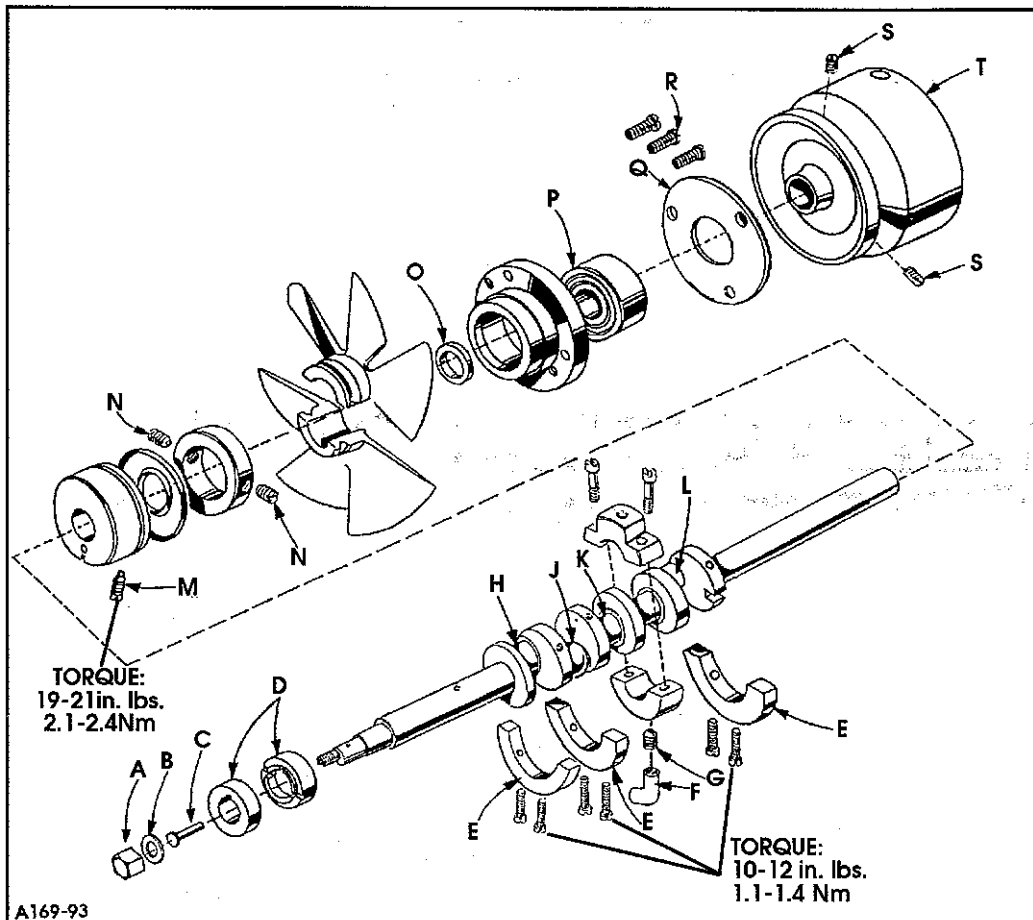
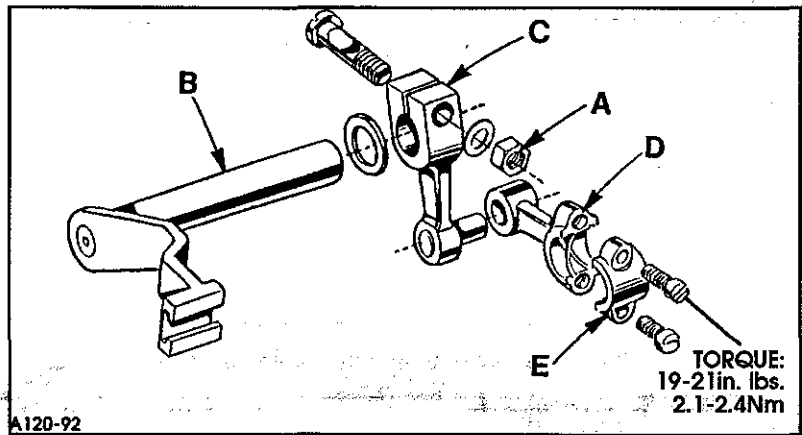

Fig. 21
Fig. 22
3. Remove feed eccentric nut (A, Fig. 21) and washer (B) and metering pin (C). With the aid of the eccentric extractor, slip off eccentrics (D).
4. Remove three counterweights (E). Identify these counterweights so that they will be reassembled in their proper positions.
6. Loosen clamp nut (A, Fig. 22) which holds upper knife driving arm (B). Access clamp nut (A) through the top cover. Draw driving arm (B) to the left until upper knife driving lever (C) and connecting rod (D) drop, allowing removal of bearing cap (E). This is at bearing point (K, Fig. 21) on crankshaft. Observe the same precautions when reassembling cap as described in Step 6.
7. Remove oil return tube (F, Fig. 21) located on the bottom of the bed casting. Loosen set screw (G) which holds inner right crankshaft bearing, located on the bottom of the bed casting beyond the oil return tube.
8. Loosen screws (M) & (N) in the fan collar and remove both halves of the cooling fan.
9. Loosen screws (S) remove pulley (T).
10. Remove screws (R) and take off bearing retaining plate (Q). Bearing (P) may be removed at this time.
14. If necessary to replace ball bearing (P), it should be pressed off of the shaft on an arbor press. In replacing the bearing it must be pressed on carefully until it seats against ground thrust washer (O), or use Union Special pulling tool numbers 4196301 and 4196303 for removal and replacement.